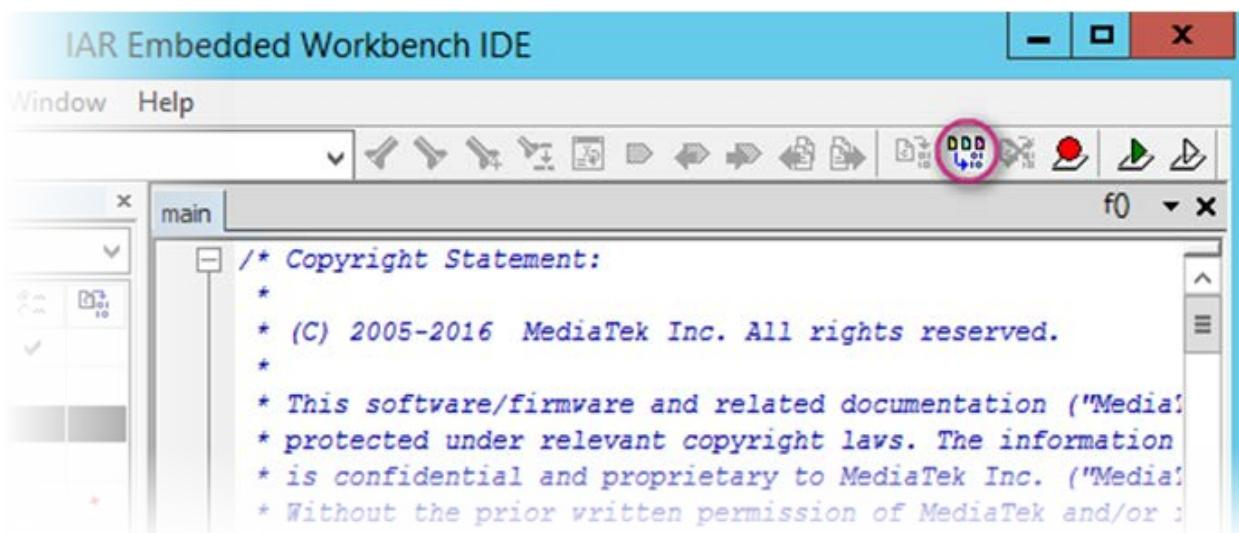

Figure 65. Rebuild the project
- Click **Rebuild** to build the project, as shown in Figure 65.